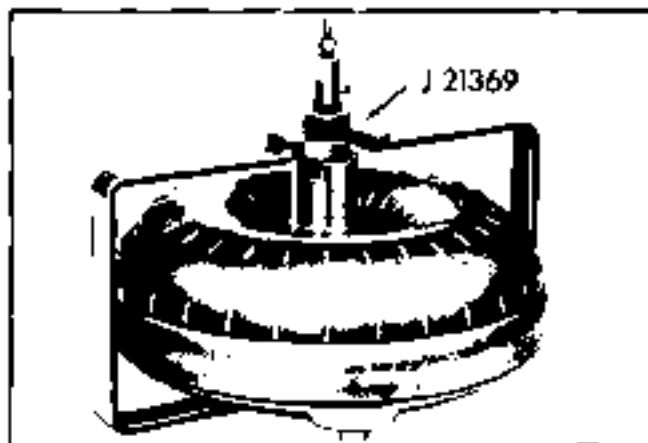

Fig. 7G-104 Air Checking Converter
b. Fill converter assembly with 90 psi. of air, submerge in water and check for leaks (Fig. 7G-104)